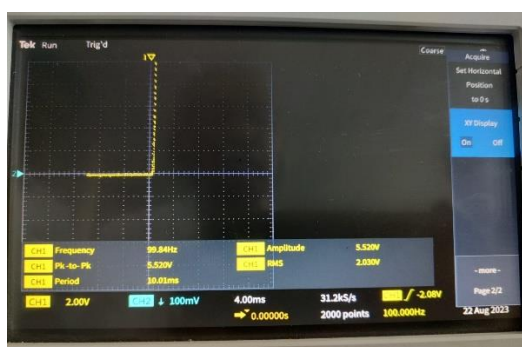

Fig. E1 – XY plot – ambient light conditions
- f) Sketch the XY waveform in your Lab Notebook. (See the X-Y plot image shown below (Fig.E1) for ambient light conditions)